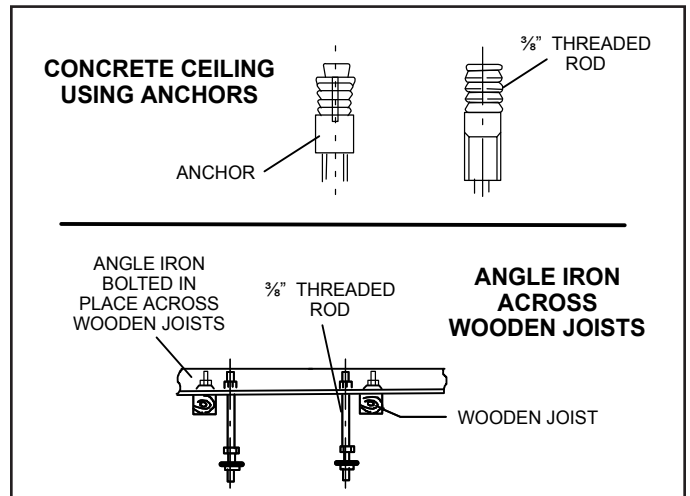

Figure 1. Suspending Methods
4. **Make sure that structure within ceiling void such as a sub-floor or crawl space is able to support the weight of the cassette unit. It may be necessary to add extra support.** If the structural support is constructed of concrete, install anchors to accept four $\frac{3}{8}$ " threaded rods to suspend the cassette base. If the structural support includes wooden joists, use angle iron or a Unistrut channel fixed securely in place to accept the $\frac{3}{8}$ " threaded rods. **NOTE - Threaded rod (requirement of Lennox warranty program) is the ONLY acceptable method of suspending the unit; do not use chains or straps.** See Figure 1.